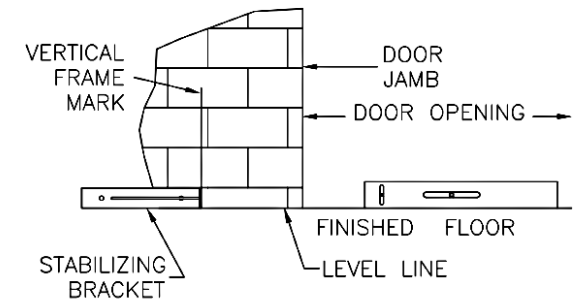

FIG 3A
- * Place Bracket on its side, flush to wall along top of level line, extending away from door opening (Figure 3a).